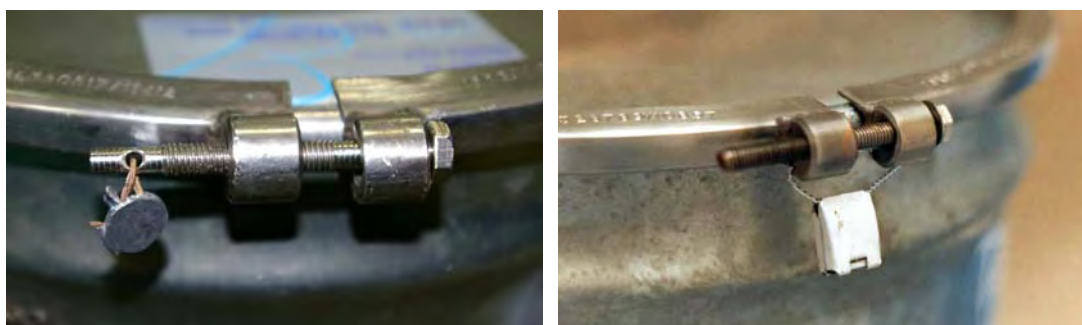

Figure 3: Typical security seals
- 4.20 Fit non-reusable security seal through holes in clamp band end bosses, or hole in clamp screw, so drum cannot be opened without breaking seal (see Figure 3).
- 10.17 Thread non-reusable security seal through holes in end bosses, or hole in clamp screw, so drum cannot be opened without breaking seal, see Figure 3.